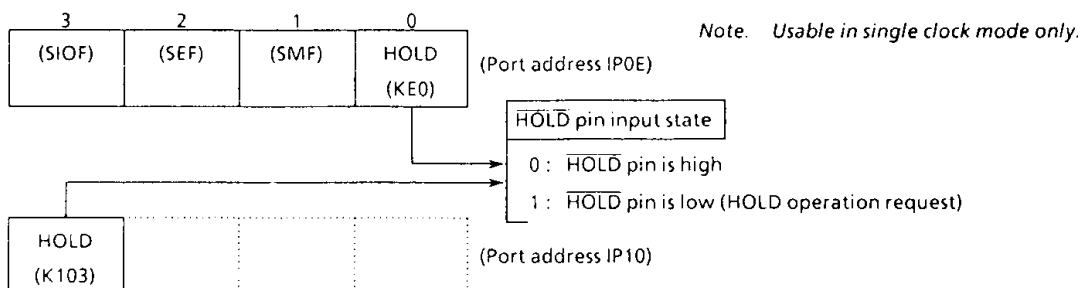

Figure 5-1. HOLD Operating Mode Command Register/Status Register
- ① The high-freq. oscillator starts.
- ② Warm-up is performed to acquire the time for stabilizing oscillation. During the warm-up, the internal operations are all stopped. One of three warm-up times can be selected by program depending on the characteristics of the oscillator used.
- ③ When the warm-up time has passed, an ordinary operation restarts in single clock mode from the instruction next to the instruction which starts the HOLD operation. At this time, the interval timer starts from the reset state "0".
- ※ The warm-up time is obtained by dividing the basic clock by the interval timer, so that, if the frequency at clearing the HOLD operation is unstable, the warm-up time shown in Figure 5-1 includes an error. Therefore, the warm-up time must be handled as an approximate value.